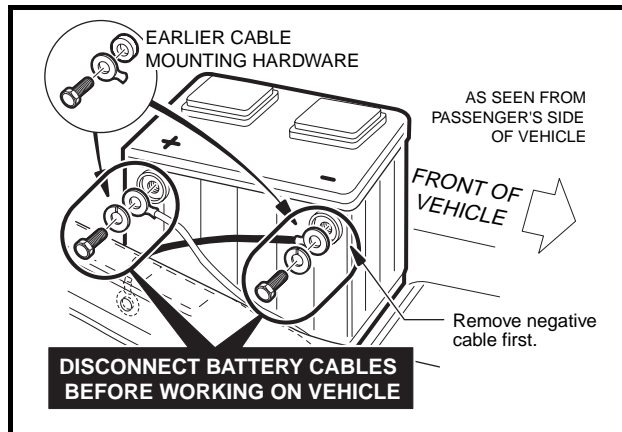
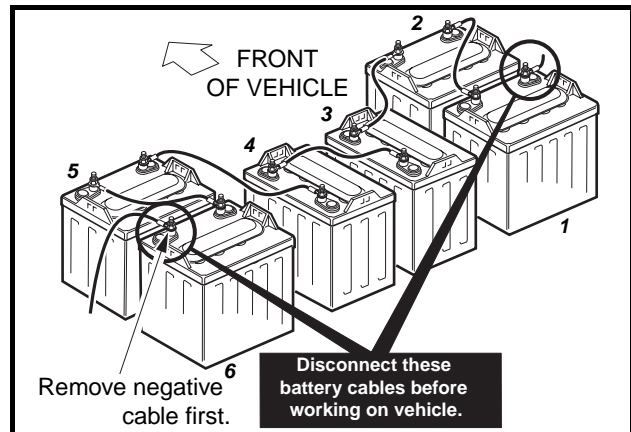

Figure 1 Battery Disconnect – Gasoline Vehicle
Figure 2 Battery Disconnect – PowerDrive System 48 Electric Vehicle
- **Disconnect battery cables, negative (-) cable first (Figure 1).**
To avoid unintentionally starting the vehicle, disconnect the batteries as shown (Figures 2 through 4, starting on page 4).
- Connect the battery cables, positive (+) cable first. For gasoline vehicles, tighten hardware to 20 ft-lb (27.1 N·m) **(Figure 1)**. For electric vehicles, tighten hardware to 110 in-lb (12.4 N·m) **(Figures 2 through 4, starting on page 4)**. Coat terminals with Battery Terminal Protector Spray (CCI P/N 1014305) to minimize corrosion.